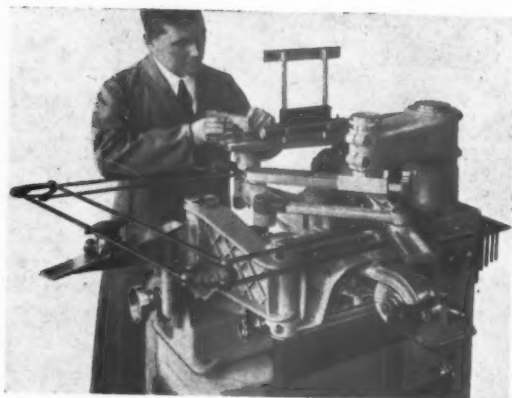

FIG. 37
(2) Fig. 36 shows the principle of the Studer Machine, which combines a pantograph with up to 50:1 reduction from the template size, with a duplex parallelogram linkage for angular wheel orientation in relation to the tracer. The machine, a general view of which is shown in Fig. 37, is capable of extremely accurate work and is largely used in the manufacture of tools and dies in the watch and clock making industry.